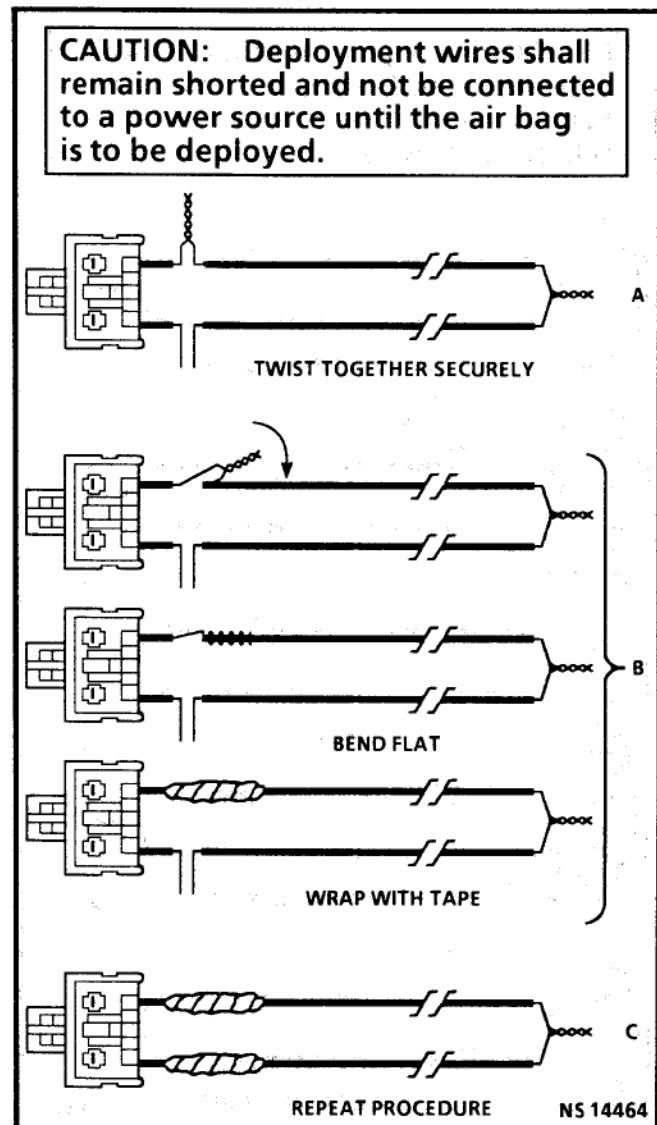

Figure 29 - Fabricating the Deployment Harness
19. Twist together one connector wire lead to one deployment wire. The connection should be mechanically secure (Figure 29-A).
20. Bend twisted connection made in the previous step flat and wrap tightly with electrical tape to insulate and secure (Figure 29-B).
21. Twist together, bend and tape the remaining connector wire lead to the remaining deployment wire (Figure 29-C).